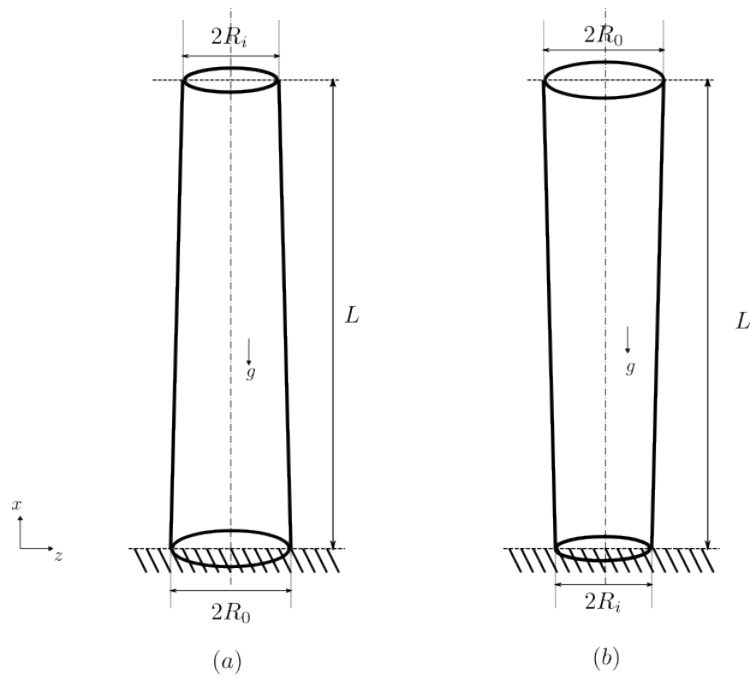

Figure 1: Figure for Question 2: A tapered column subjected to gravity loading.
Consider a tapered column of length  $L$  as shown in fig. 1(a). The Young's Modulus for this column is  $E$ , and the cross section is circular, with the radius linearly varying from  $R_o$  at the bottom to  $R_i$  at the top (assume that the length is much longer than the largest radius). The column is subjected to gravity loading, as shown in fig. 1. The goal of this problem is to find the critical length of the column when buckling occurs due to self-weight.
- (e) If the column is inverted, i.e., the smaller cross-section end is fixed at the bottom (as shown in fig. 1(b)), will the critical length of the column for buckling increase or decrease? Determine the critical length for this case (use  $R_i/R_o = 0.5$ ). **(2 marks)**
- (f) In order to ensure that both configurations shown in fig. 1 have the same critical buckling load for a given length (the larger critical length you have determined), a spring is attached to the weaker column in the lateral direction (along  $z$ ). Will this solution work as intended? Provide a qualitative justification based on the analysis done above. **(3 marks)**